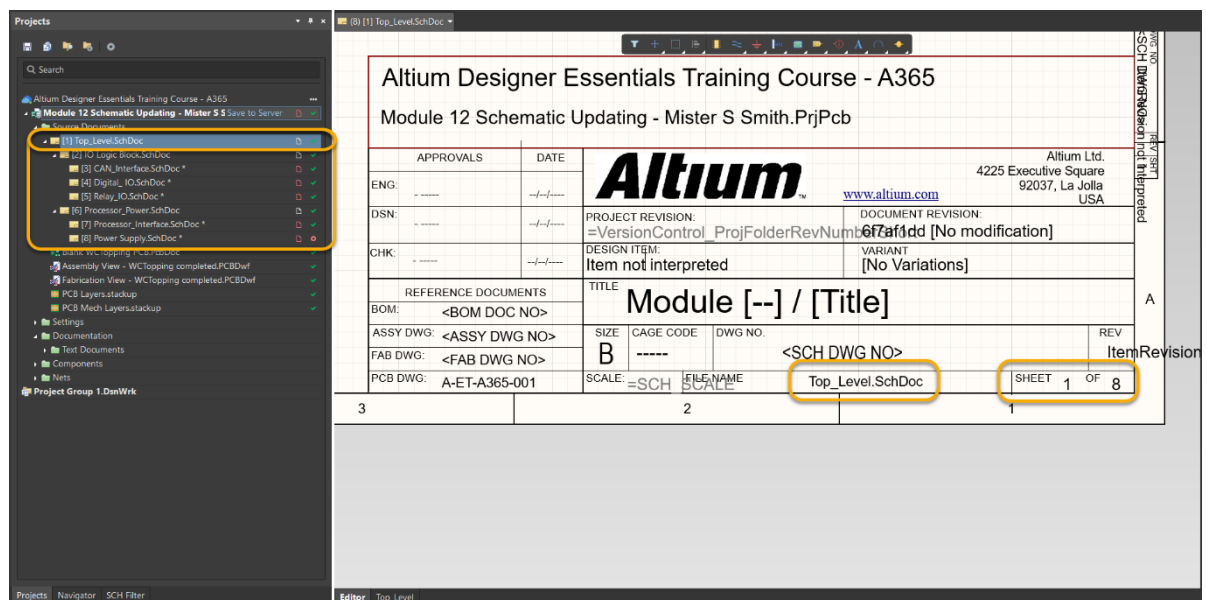

Figure 14. Title Block with Sheet number
26. The title block in each schematic will now show the proper sheet number according to the position in the Project Panel, as shown in Figure 14 below.